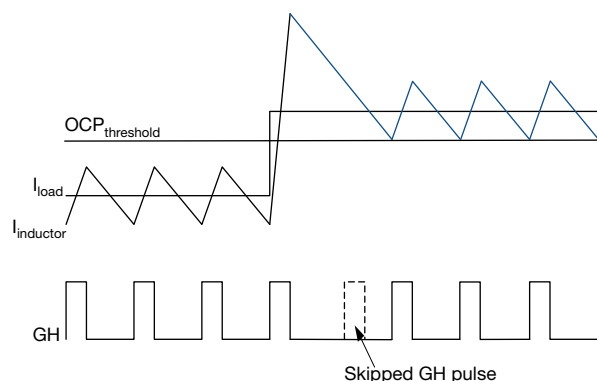

Fig. 7 - Over-Current Protection Illustration
SiC45x has pulse-by-pulse overcurrent (OC) limit control. The inductor valley current is monitored during low-side (LS) FET turn-on period through R_{DS(on)} sensing. After a pre-defined blanking time, the valley current is compared with an internal OCP threshold named IOUT_OC_FAULT_LIMIT, which can be programmed via PMBus. Once monitored valley current is larger than IOUT_OC_FAULT_LIMIT, a pulse-by-pulse over-current limit is broken, high-side (HS) turn-on pulse is skipped and LS FET is kept on until the inductor valley current returns below OCP limit as illustrated by Fig. 7.